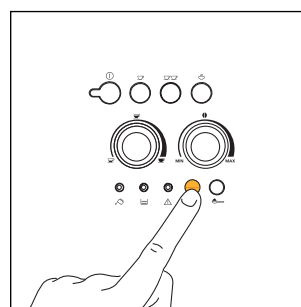

Fig. 14
1) If, when the machine has just been turned on, a short cup of coffee is required (less than 60cc), use the hot rinsing water to pre-heat the cups (see the suggestion in par. 4.3, point 5). 1) If, when the machine has just been turned on, a short cup of coffee is required (less than 60cc), use the hot rinsing water to pre-heat the cups (see the suggestion in par. 4.3, point 5). If, on the other hand, more than 2/3 minutes have elapsed since the last coffee was made, before preparing **another coffee the infuser must be pre-heated, pressing the  button (Fig. 14).**